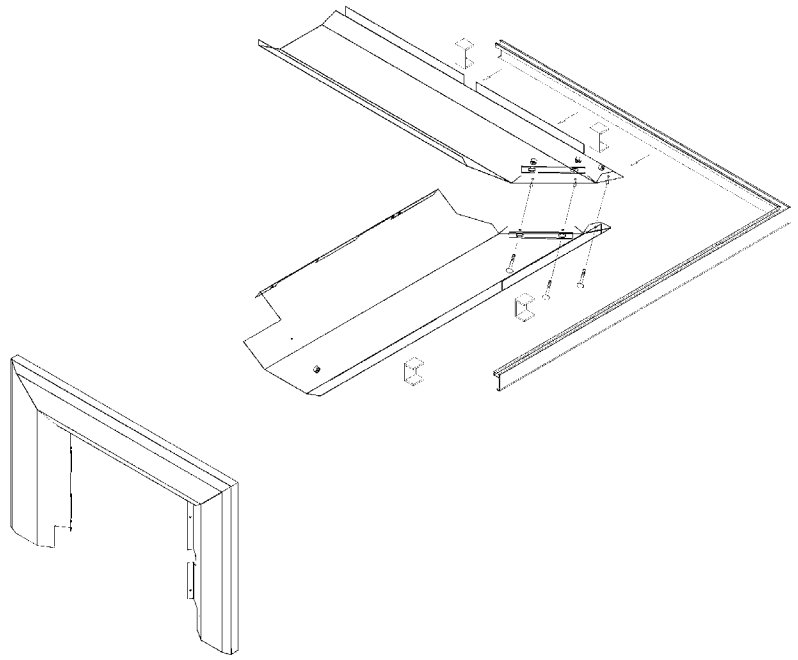

Figure 2.6
(see Figure 2.6)
5. Secure trim to faceplate using eight "U" shaped brackets. (see Figure 2.6)